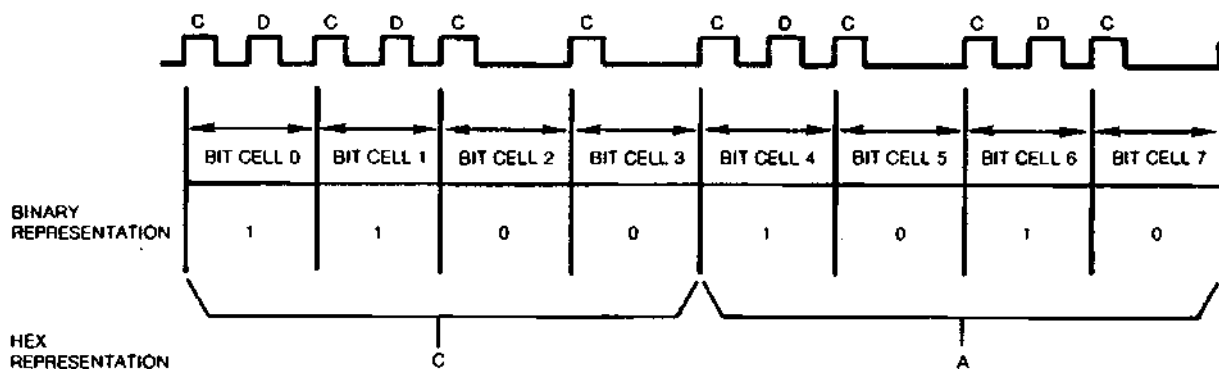

FIGURE 26. BYTE
**1.4.1** The SA850/851 drive uses the double-frequency (2F) horizontal non return to zero (NRZI) method of recording. Double frequency is the term given to the recording system that inserts a clock bit at the beginning of each bit cell time thereby doubling the frequency of recorded bits. This clock bit, as well as the data bit, are provided by the using system. See Figure 26.